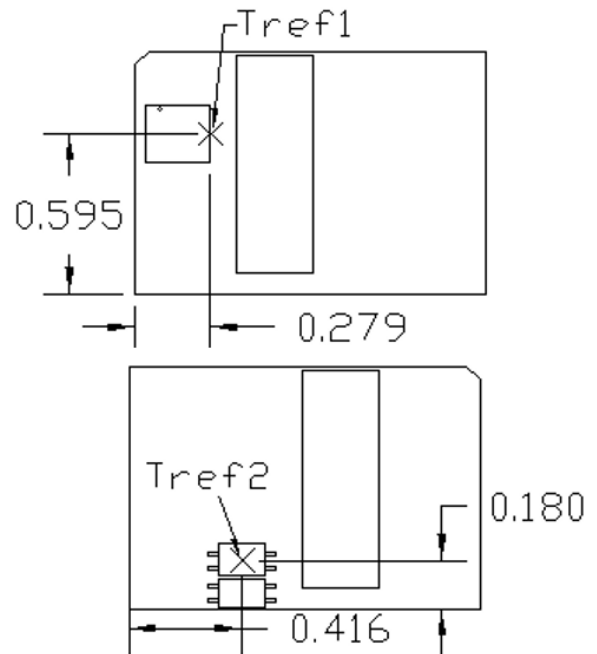

Figure 13. T_{ref} Temperature Measurement Locations for Open Frame Module.
To provide protection under certain fault conditions, the unit is equipped with a thermal shutdown circuit. The unit will shutdown if the thermal reference point T_{ref} (Figure 13), exceeds 125°C (typical), but the thermal shutdown is not intended as a guarantee that the unit will survive temperatures beyond its rating. The module can be restarted by cycling the dc input power for at least one second or by toggling the remote on/off signal for at least one second. If the auto-restart option (4) is ordered, the module will automatically restart upon cool-down to a safe temperature.
The thermal reference point, used in the specifications is shown in Figure 13. For reliable operation this temperature T_{ref1} should not exceed 124.1°C and T_{ref2} should not exceed 110°C .